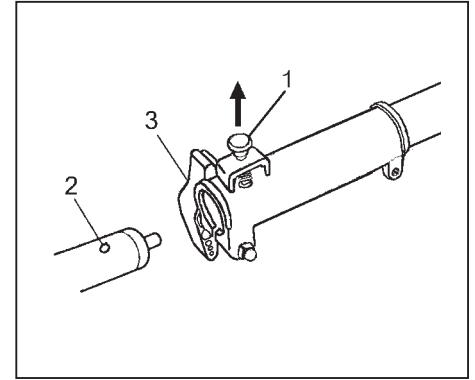

Fig. 1-2
2. Make sure the lock pin (1) fits in the location hole (2) of tube and that the tube will not come off. (Fig. 1-2)
3. Tighten the knob nut (3) securely. (Fig. 1-2)